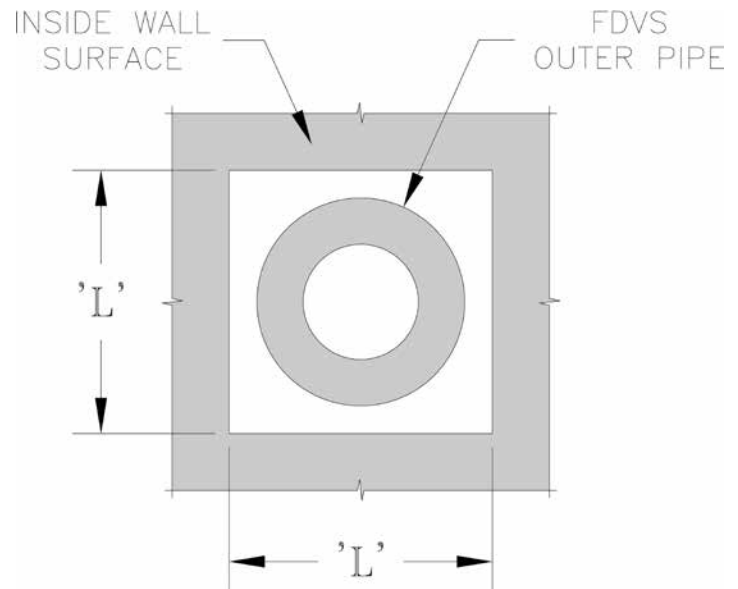

Figure 17: Wall Cutout Dimensions
B. INSTALLATION OF THE VENT HOOD TERMINAL (see Figures 17, 18 and 19)
5. After determining the location of the venting system termination, cut the square hole in the wall sized according to “L” dimension in Table 6, see Figure 17.